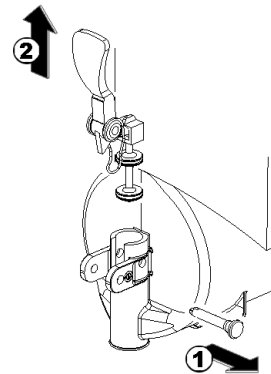

figure 12
- 5** Dismantle the faucet assembly (see figure 12).
- 3 Assemble the faucet by reversing the disassembly steps (see figure 12)